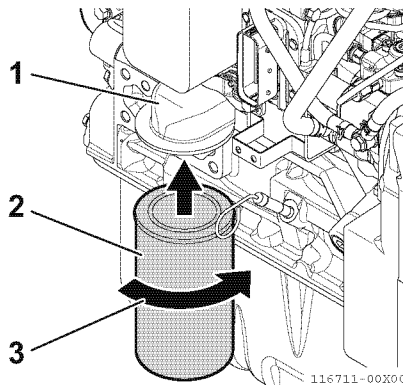

Fig.30-16
1. Clean the engine lubricating oil filter mounting face of the lubricating oil cooler bracket (1, Fig.30-16).
2. Lightly apply clean engine lubricating oil to the gasket surface of the new lubricating oil filter (2, Fig.30-16). Install the new engine lubricating oil filter manually by turning it clockwise (3, Fig.30-16) until it contacts the mounting surface. Tighten to the specified torque or one additional turn using the filter wrench.